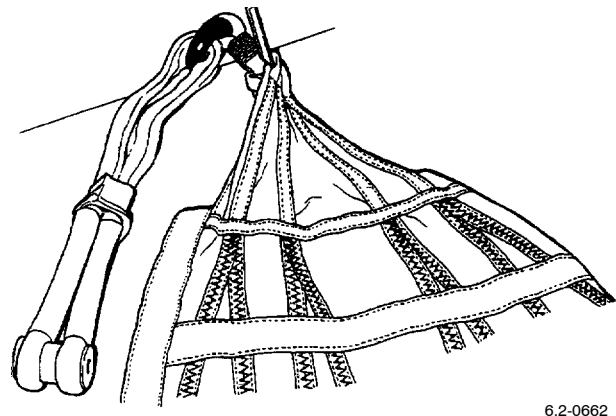

Figure 12. Deployment Sleeve Attached to Table Hook
a. Position the deployment sleeve at the table head and attach the apex to the table hook, mouthlocks side uppermost (Figure 12).